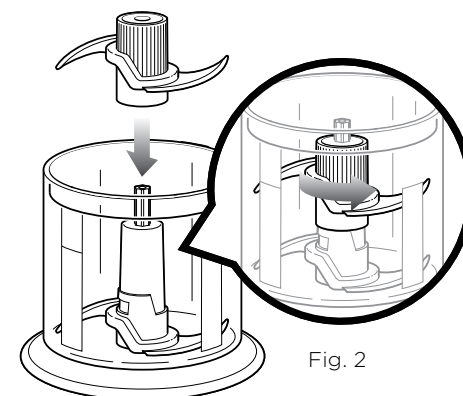

Fig. 2
- 4 Carefully insert the Upper Chopping Blade Assembly over the Lower Chopping Blade Assembly rotating it until it locks onto the Lower Chopping Blade Assembly. **(fig. 2)**